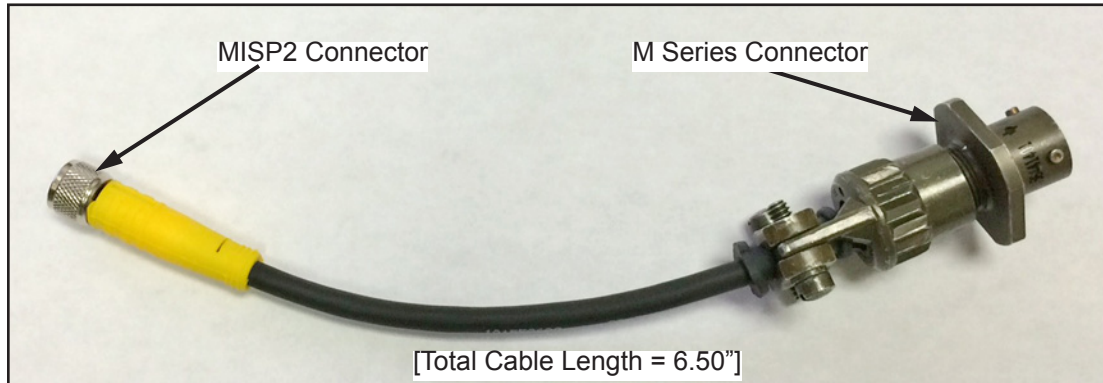

**Figure 5: TF-MISP2 Converter Cable**
If an existing moisture measurement system uses a **TF-Series** moisture probe, the cable for that probe may be adapted for use with an **MISP2** probe. To retrofit the existing system, refer to *Figure 5* below and complete the following steps:
3. Using BHGE *adapter cable 704-1362-00*, shown in *Figure 5* above, connect one end of the cable to the **MISP2** probe and connect the other end to the existing **TF-Series** cable connector.